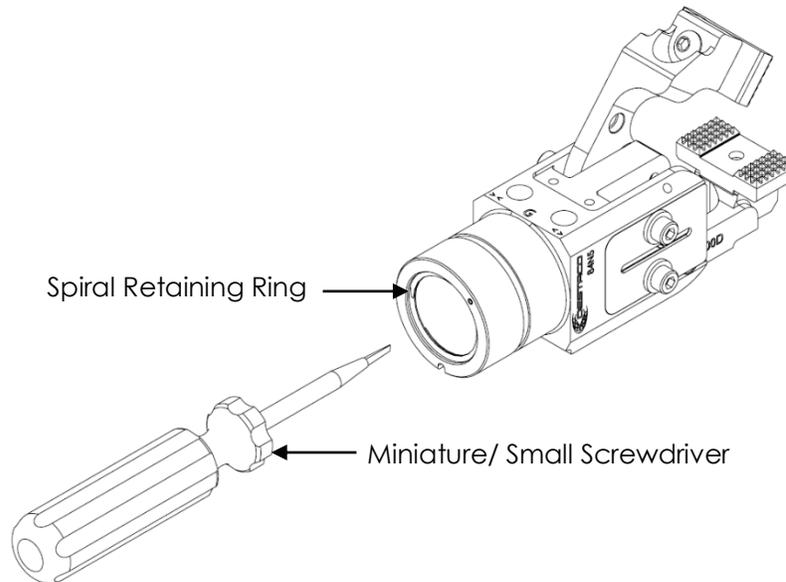

Fig.34
2. Unseat the spiral retaining ring from the gripper body using a miniature/ small Screwdriver (see Fig.34).